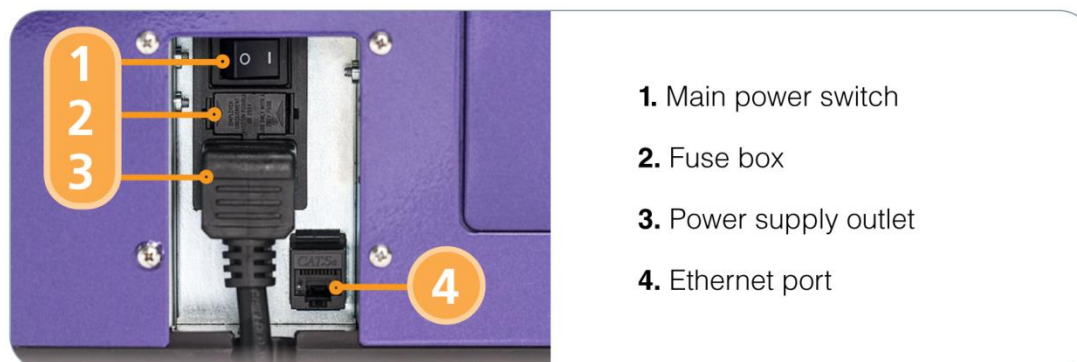

Figure 10. Power and Network Connections
Plug in the power cord provided with RoboSep™-S to the power supply outlet located on the back of the instrument (Figure 10), and connect it into a 3-prong, grounded AC outlet rated 2A 100 - 240 V. Do not use an adapter to a two-terminal outlet.
- An Ethernet port located on the back of the instrument (Figure 10)
1. Connect one end of a CAT-5 Ethernet cable (not provided) to the Ethernet port located on the back of RoboSep™-S (Figure 10) and the other end to a networked router. This will connect RoboSep™-S to your LAN.